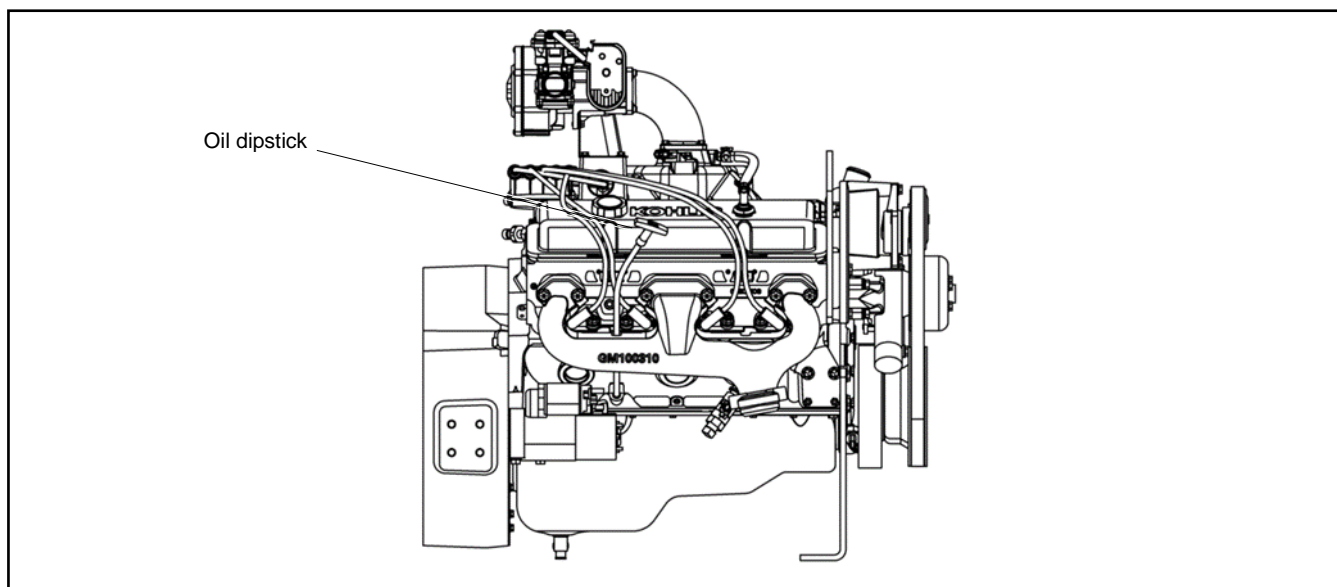

Figure 21 Oil Dipstick Location
2. Pull out the oil dipstick. See Figure 21.